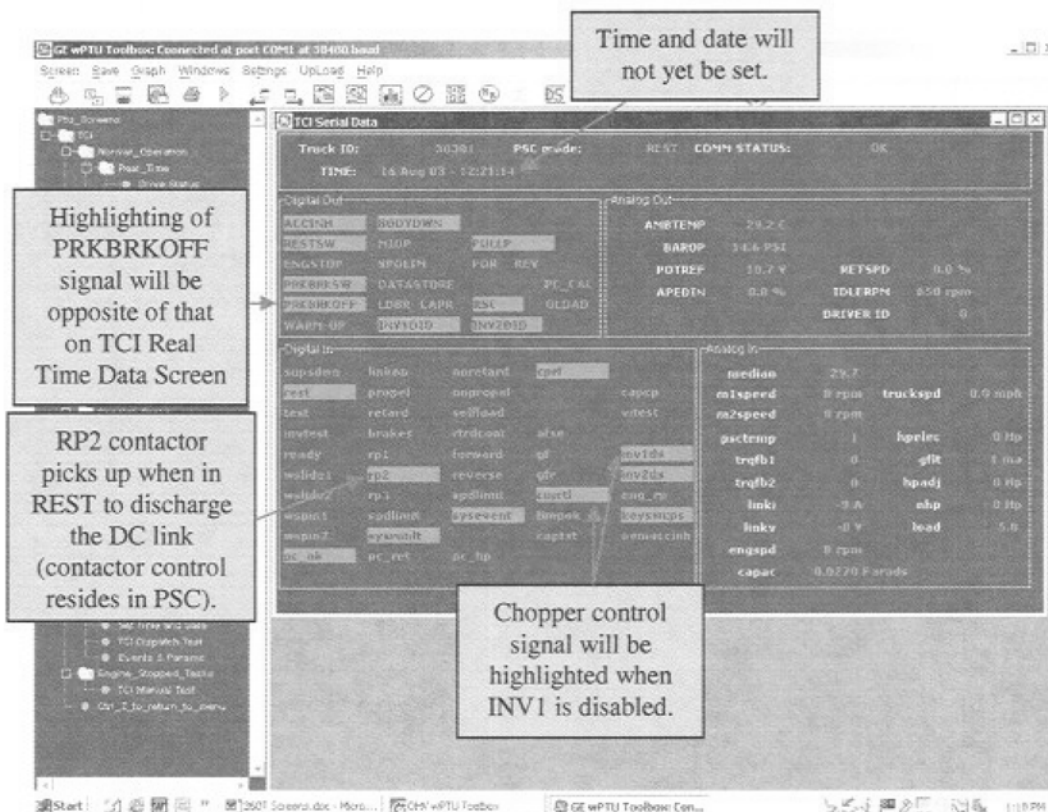

FIGURE 3-8. TCI SERIAL DATA SCREEN
- Verify that the analog and digital values are similar to the example in Figure 3-8.